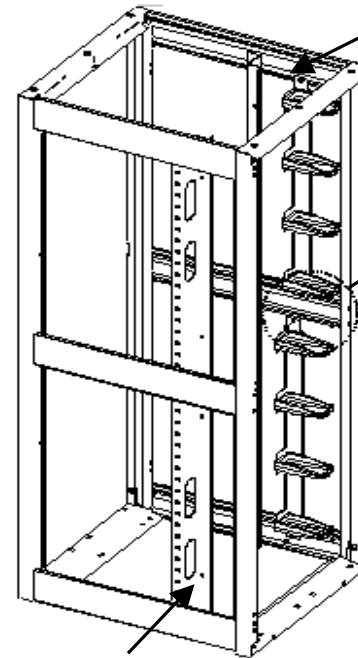

Fig. 2
The equipment mounting rail must be set back a minimum distance 8.16" (207 mm) for Ring Cable Manager installation as shown in Fig. 2 and Fig. 3.
The Ring Cable Manager (Fig.1) attaches to the cabinets slides (Fig. 2).
2. Insert M6 Drop-in-Nuts in the slides as shown below. Fasten the Ring Cable Manager using M6 x 10mm screws into the Drop-In-Nut. (Fig. 2, detail)